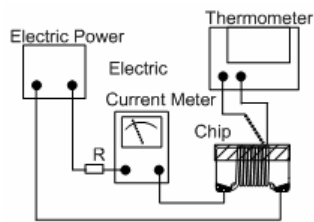

Fig. 6.3.5-1
d. Definition of Rated Current (I_r): I_r is direct electric current as chip surface temperature rose just 20°C against chip initial surface temperature (T_a) (see **Fig. 6.3.5-2**).